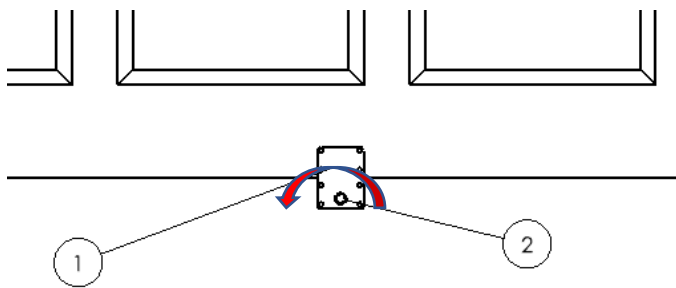

Figure 3.7
On the driver's side of the box turn the spring assembly shaft (2) counterclockwise until the shaft engages with the spring. (Figure 3.7)